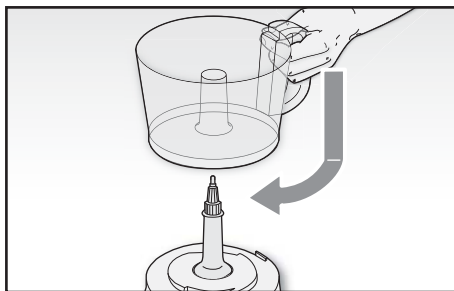

Fig. 3
- 2 Place the bowl (P) on the motor body and lock it by turning it clockwise so that the flap on the bottom of the handle engages fully snapping into the slot on the motor body (Fig 3).